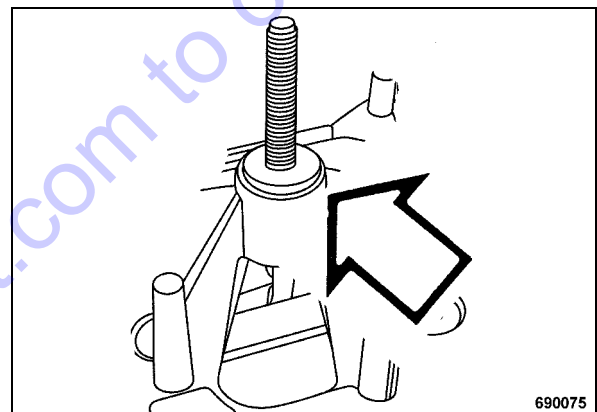

Fig. 57
- Check the rubber seal, replace the rubber seal if damaged (Fig. 57).